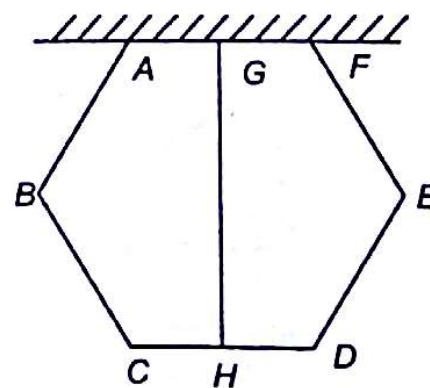

Fig. 9.24
9.2 A hexagon frame is made up of six bars of equal weight and equal length as shown in Fig. 9.24. Rod AF is fixed in a horizontal plane. A rod GH is fixed at the mid-points of rods AF and CD . If weight of each rod is W , then by using the principle of virtual work show that tension in member GH is equal to $3W$.